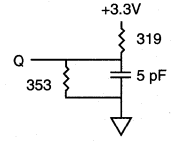

Fig. 2 OUTPUT LOAD EQUIVALENT
6. ^tHZCE, ^tHZOE and ^tHZWE are specified with CL = 5pF as in Fig. 2. Transition is measured ±200mV from steady state voltage.